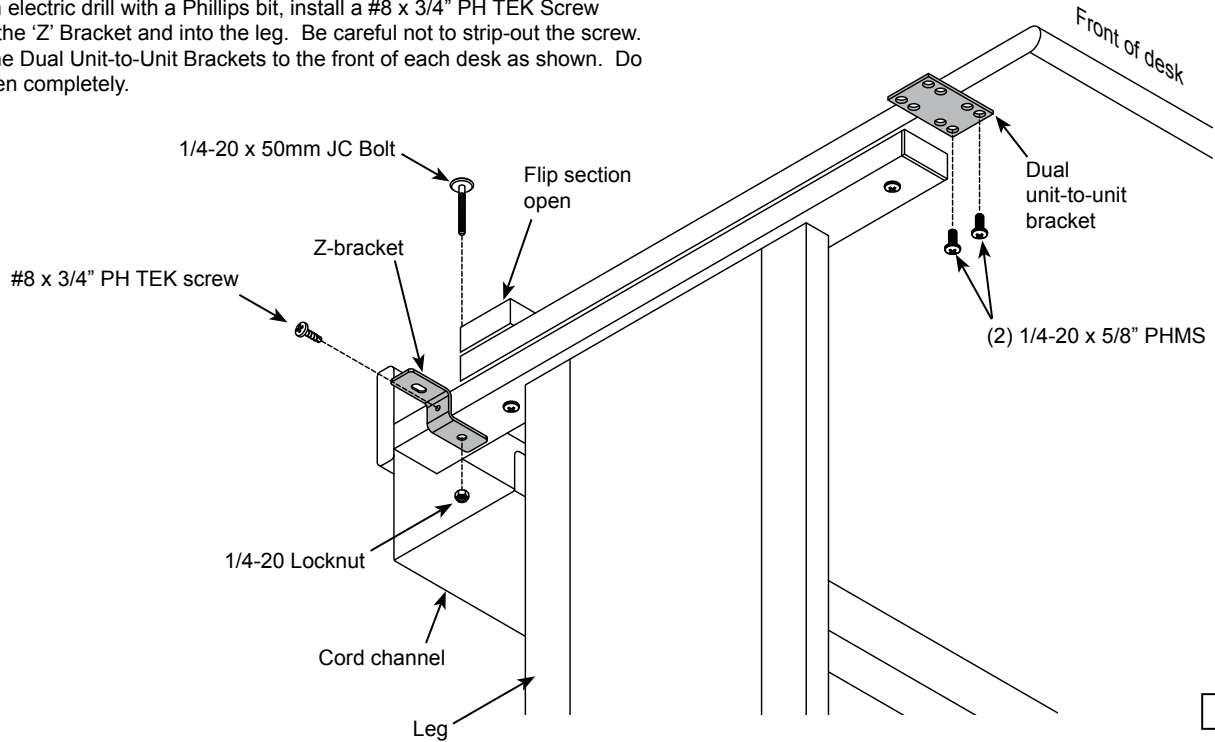

Figure 2
1. Attach the 'Z' Brackets to the rear of each desk as shown in **Figure 2** using (1) 1/4-20 x 50mm JC Bolt and Locknut. Tighten completely. Note: The elongated hole on the 'Z' Bracket will attach to the Corner Connector.